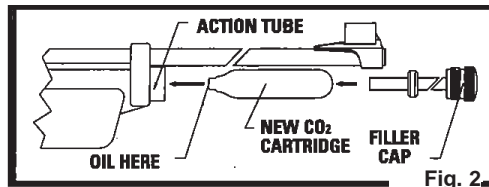

Fig. 2
- Insert the new CO₂ cartridge into the airgun with the small neck of the CO₂ cartridge into the action tube first (Fig. 2)
- Put 1 drop of Crosman 0241 Pellgunoil® on the tip of every CO₂ cylinder to help maintain your airgun. (Fig. 2) DO NOT use petroleum distillate based oil or solvent and DO NOT over-oil as this can cause damage to your airgun.